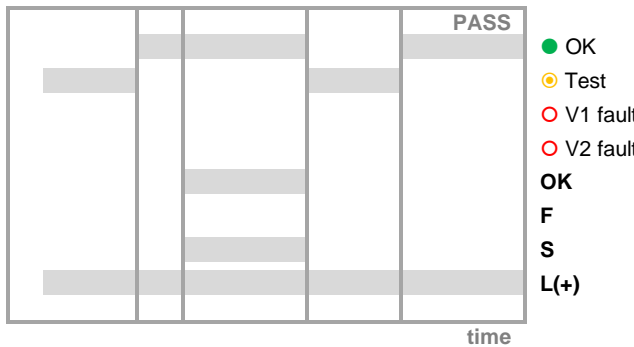
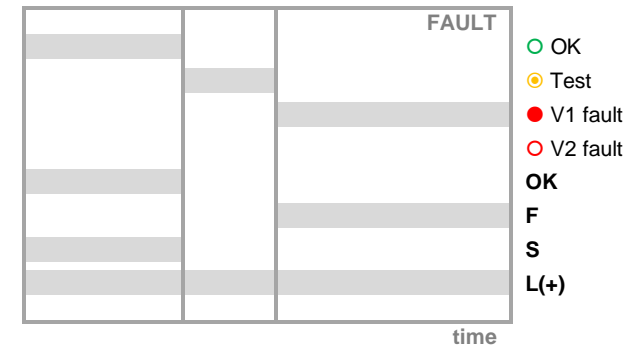

Fig.14
Fig.15
The device is switched on by applying voltage to terminal 3. The test cycle is started automatically without waiting for the start signal (S). If the valves are tight the green LED4 is switched on, but the OK signal is not provided to the burner control as long as it is not received the start signal (Fig.14). When the burner operating cycle is finished, the start signal is turned off and the device immediately starts a new test cycle. If a leakage is found on either the valve V1 or V2, the related red LED5/6 is switched on and the fault signal (F) is provided to the burner control (Fig.15).